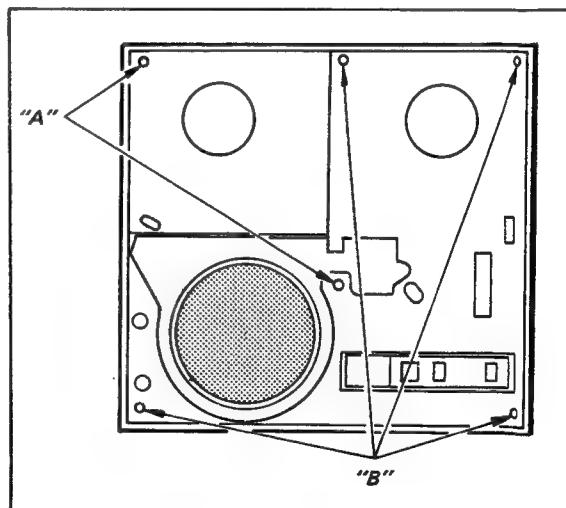

Fig. 3-2. Removal of Control and Reel Panel
5. Loosen the two screws "A"** and remove the four screws "B" as shown in Fig. 3-2.